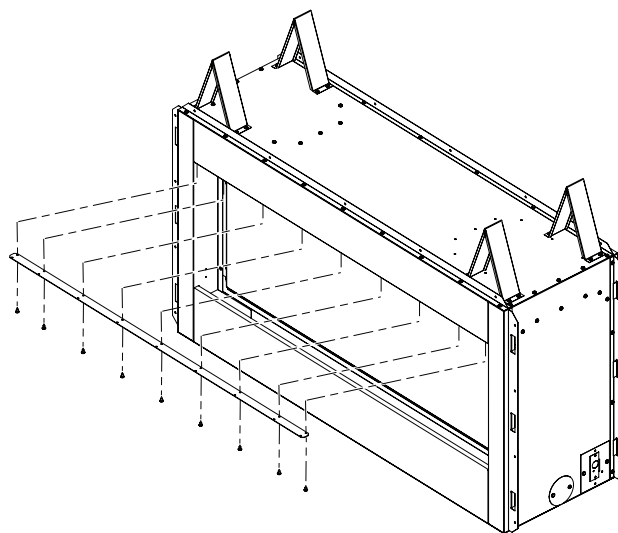

Figure 19 - Removing for See-Thru Applications
2. Unscrew mount bracket from top face as shown in Figure 19. Discard mounting bracket and replace screws.